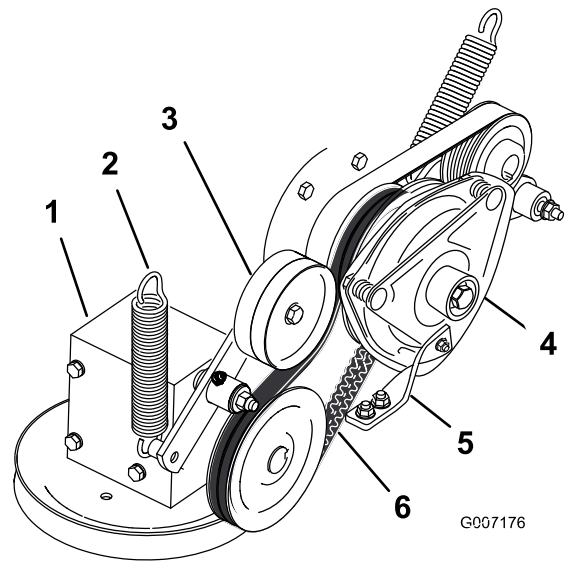

Figure 88
4. Remove the spring from the idler arm (Figure 88).
7. Install the PTO-drive belt around the clutch pulley and the gearbox pulley (Figure 88).
9. Install the spring to the idler arm (Figure 88).